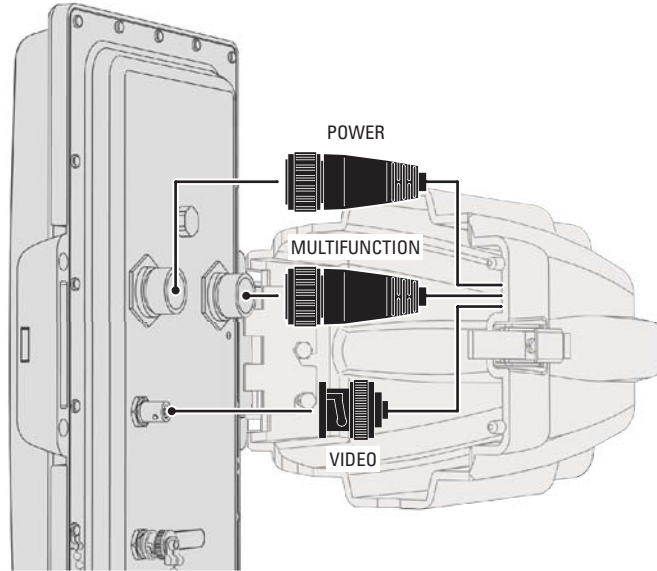

Figure 20. Connecting Cables to the EW5301T
10. Connect all cables (refer to Figure 20):